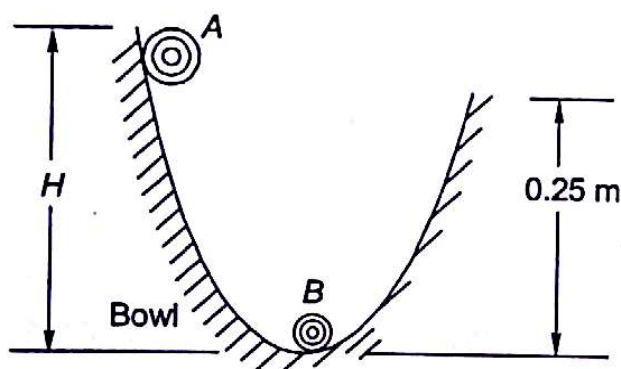

Fig. 21.12
- 21.1 From what height H , a ball A of mass 1 kg should be released from rest sliding down along the smooth surface of a bowl, so that after impact ball B of mass 0.35 kg resting at the bottom of the bowl just leaves the bowl covering a height of 0.25 m as shown in Fig. 21.12. Take coefficient of restitution is 0.75.